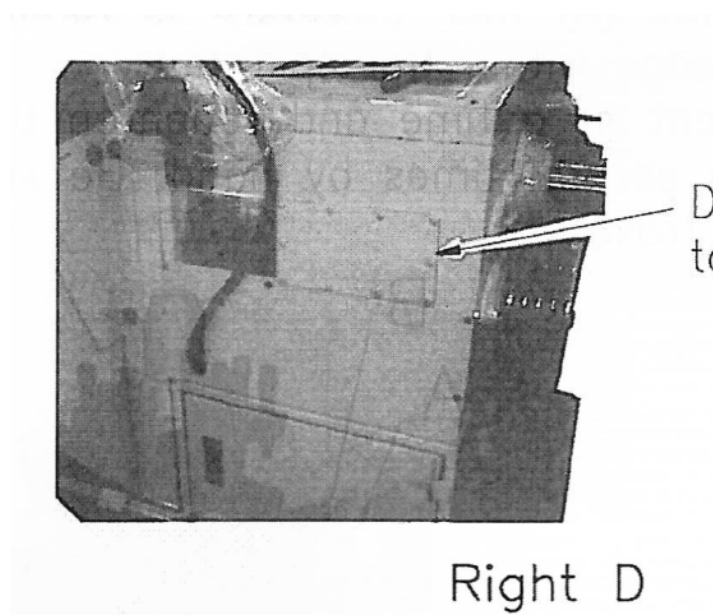

Figure 6-5: Remove the board to adjust the clutch
- 3 Remove the cover (board) from the rear of the headstock (Figure 6-5).